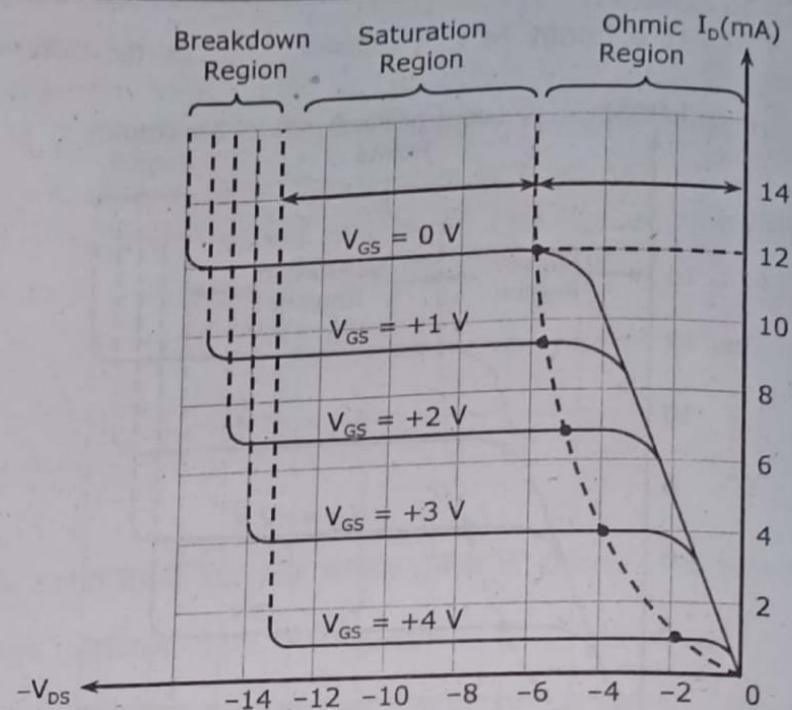

Fig. 4.4.5 Family of Drain Characteristics for an P-Channel JFET
(4) P-Channel JFET Characteristics : Fig. 4.4.5 shows the family of drain characteristics for P-channel JFET. Since in a P-channel FET, gate regions are heavily doped N^+ , hence to reverse bias these regions, we apply a positive gate-source voltage rather than negative gate-source voltage.